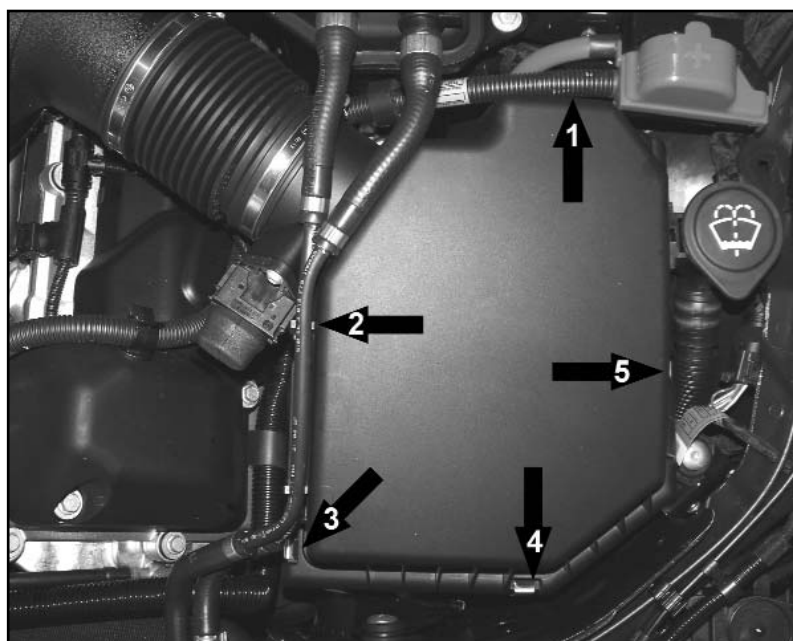

Fig. 1
8. Fasten sequence of clamps. begin at clamp #1, finish with clamp #5 to ensure proper fit. (Fig 1)
Note: Installing a K&N Air Filter will exert greater resistance on factory air box clamps. Following sequence (Fig. 1) will ensure proper fit.